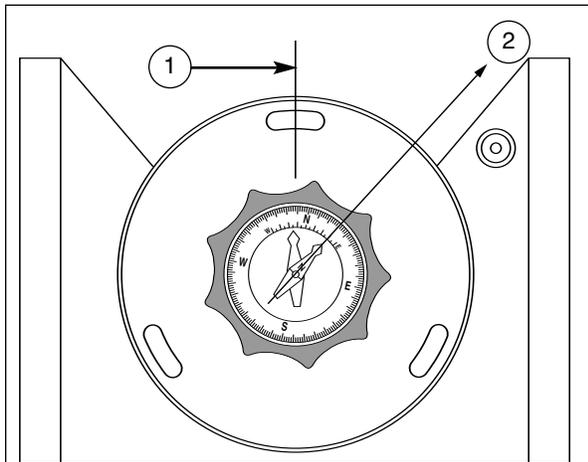

Fig. 7: Ultrawedge. (1) Centerline of Wedge; (2) Magnetic North.
- Slightly loosen the knob/compass and the three buttonhead screws in the wedge floor to allow for rotation of the Ultrawedge under the knob/compass. The magnetic pointing arrow will point to magnetic north (2, Fig. 7).